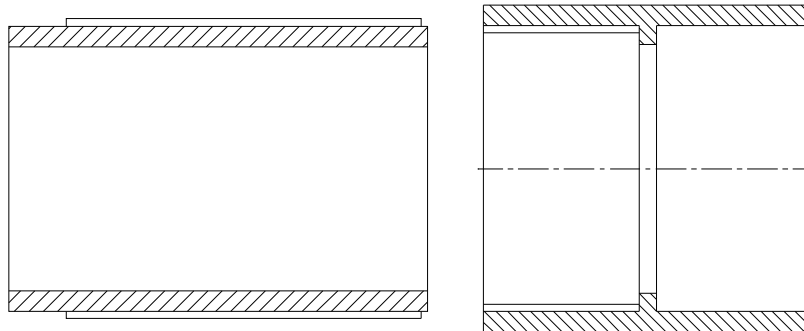

FIGURE 1: Proper Application of Cement
- 15) Promptly apply PVC solvent cement to end of pipe and inside socket surface of fitting. DO NOT allow primer to dry before applying cement. Apply lightly and evenly around the inner portion of the fitting socket (see Figure 1). Apply second coat to end of pipe.